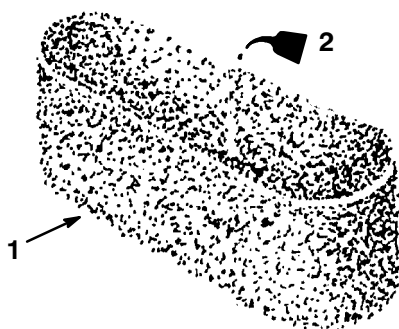

Figure 27
- C. Put one or two ounces of oil on the element (Fig. 27). Squeeze the element to distribute the oil.